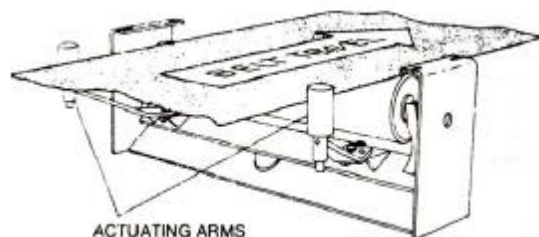

Figure 1
6. Bolt the training idlers with the actuating rolls so that they extend TOWARD THE APPROACH SIDE OF THE BELT. See figure 1.